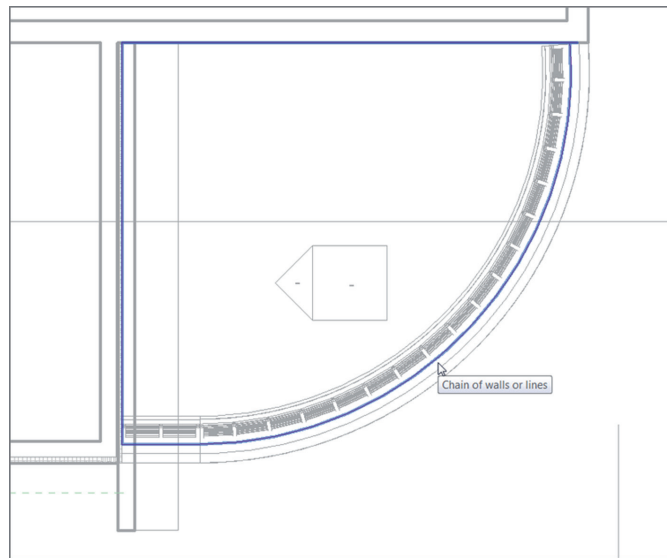

FIGURE BC1.54: The roof footprint
10. Clean up any overlapping corners. Your sketch should look like Figure BC1.54.